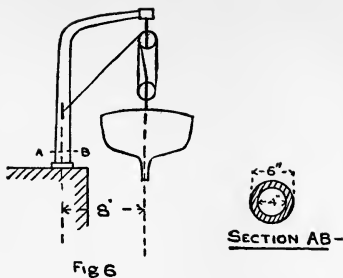

Fig 6
6. The arrangement of a ship's davit is shown in Fig. 6. The vertical load carried by the davit is 2 tons. Calculate the greatest compression and tension stresses set up at the cross-section AB .